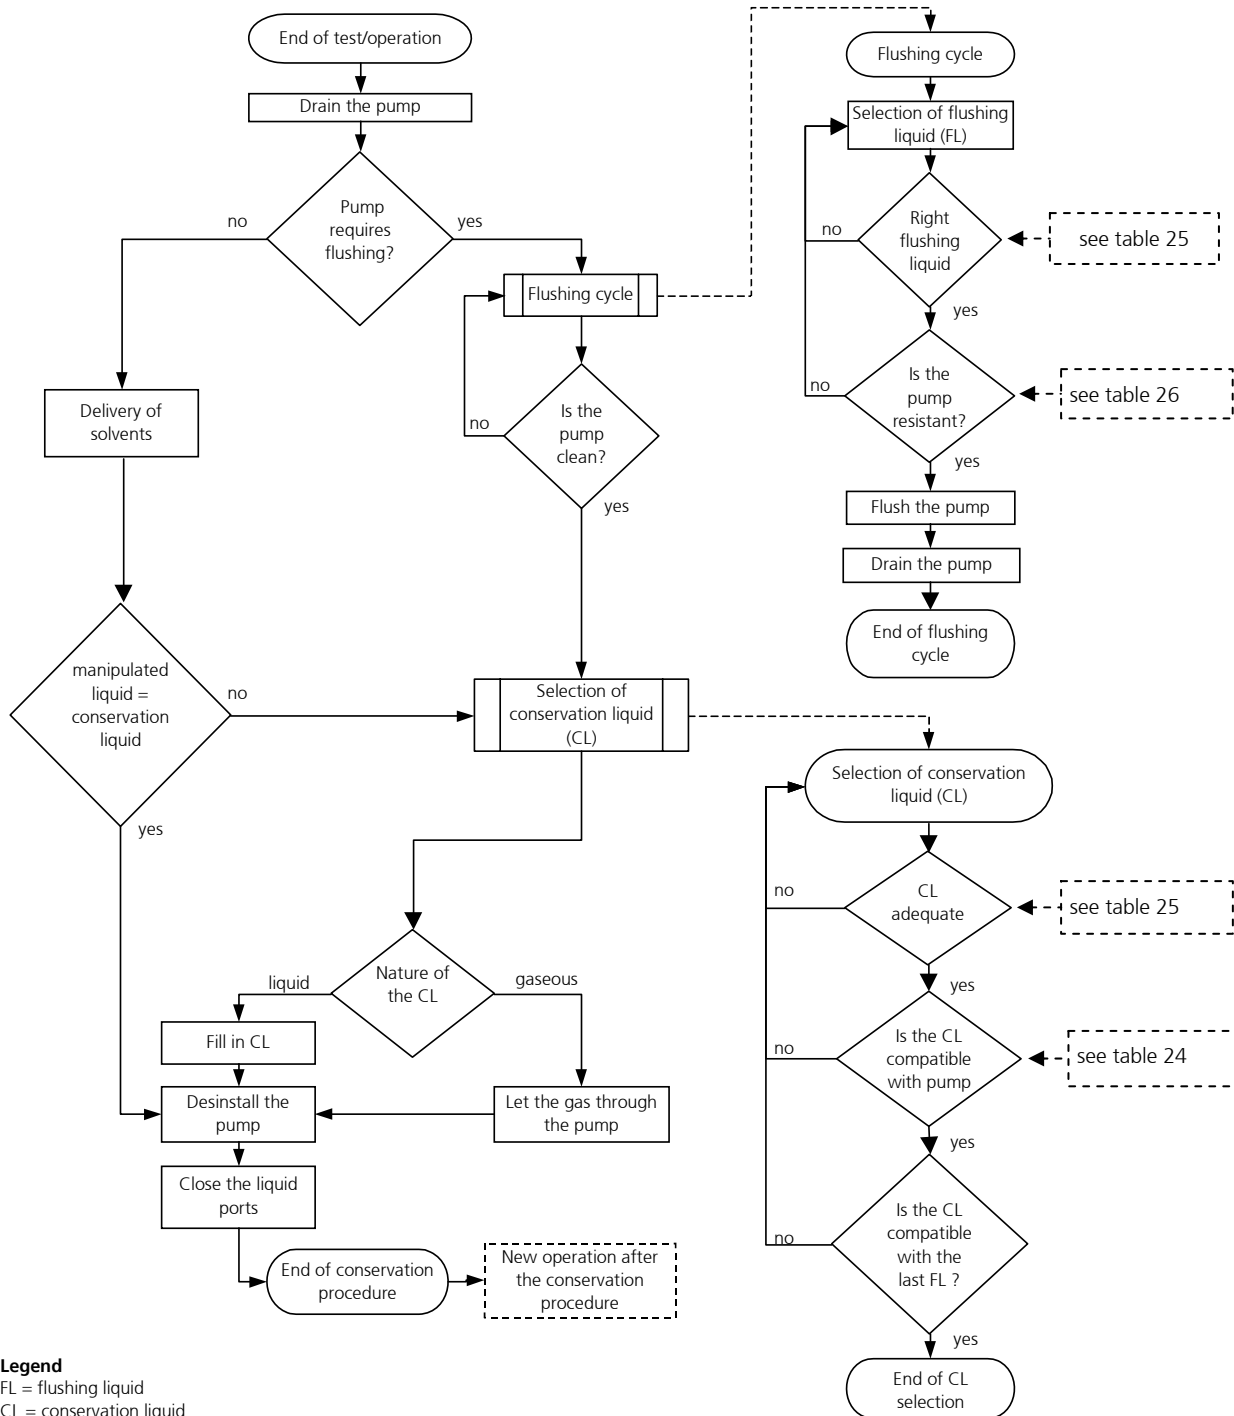

figure 29 Shutdown procedure
By proceeding as shown in the diagram (see figure 29) you may prepare the pump for a longer standstill.
*Remark:* This diagram is repeated as a part of the figure 29 »Shutdown procedure«.